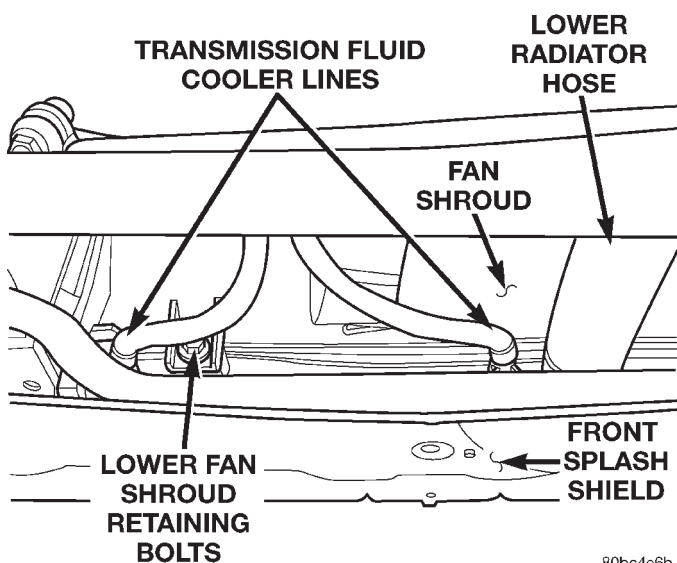

Fig. 6 Transmission Fluid Cooler Lines
(6) Open the cooling system vent. Located on top of the radiator.
(7) Raise the vehicle on the hoist
(8) Remove both of the front splash shields (Fig. 6).
(9) Drain the cooling system. Refer to Group 7, Cooling System for the procedure.
(10) Remove the transmission fluid cooler lines from the radiator (Fig. 6).
(11) Remove the lower radiator hose from the radiator (Fig. 6).
(12) Remove the lower fan shroud retaining bolts (Fig. 6).